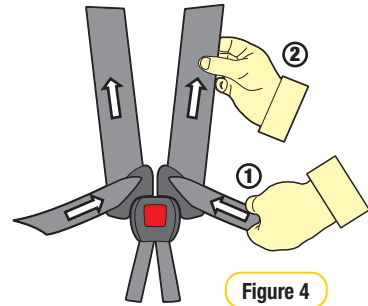

Figure 4
**Step 5:** Remove all of the slack for the harness lap straps by pulling shoulder straps (refer Figure 4), then pull the harness adjustment strap to adjust harness to a comfortable but firm fit (refer to Figure 4 & 5).